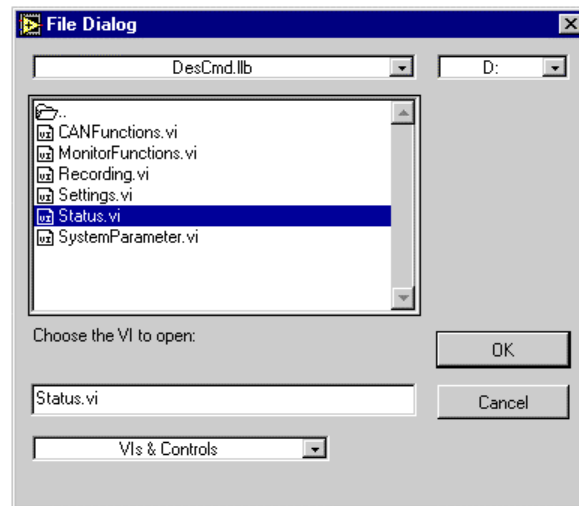

Figure 5: Open VI Bibliotheken
- Second Step:** Open the library 'DesCmd.llb'. Choose the function group for you DES RS232 command you want include. The figure 5 shows the german version of this dialog. Afterwards a frontpanel windows appears. This window is empty.